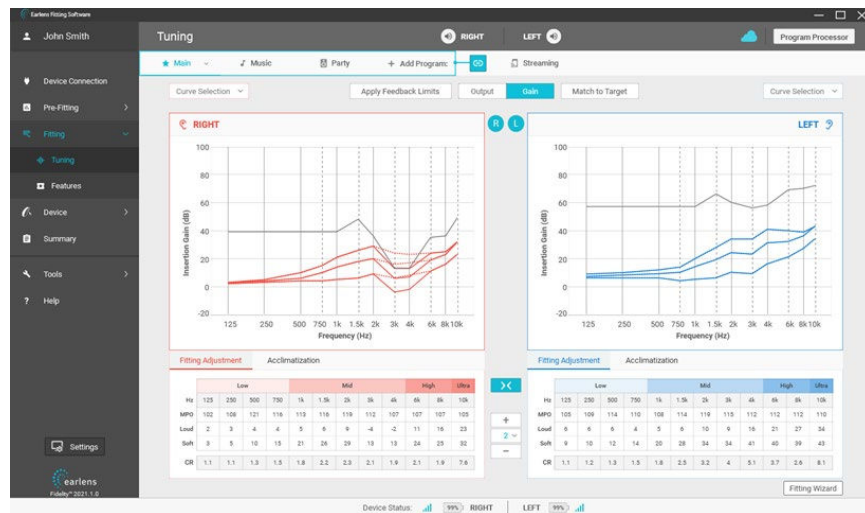
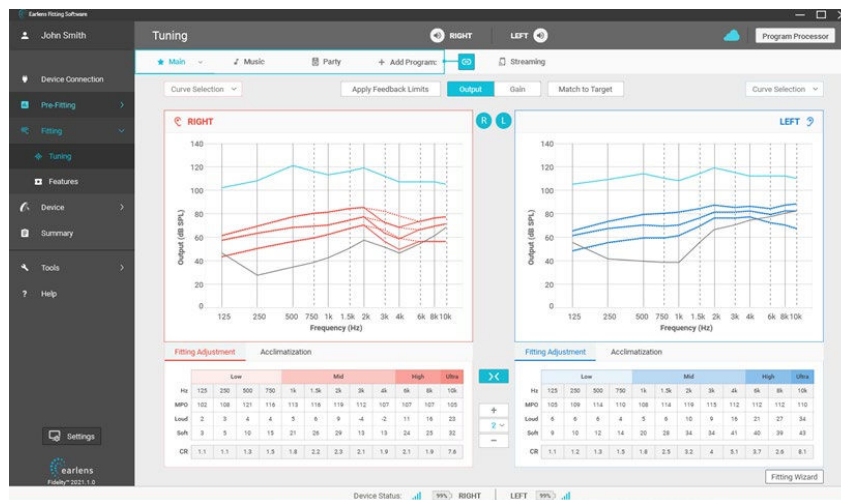

Figure 27: Tuning screen: Gain Curves displaying maximum stable gain data and feedback limits applied for the right ear
Figure 28. Tuning screen: Output Curves displaying feedback limits applied for the right ear
- If the maximum stable gain interacts with the gain prescription, gain limits will be automatically applied to the Current Fit Response to prevent feedback (Figure 27 & Figure 28).